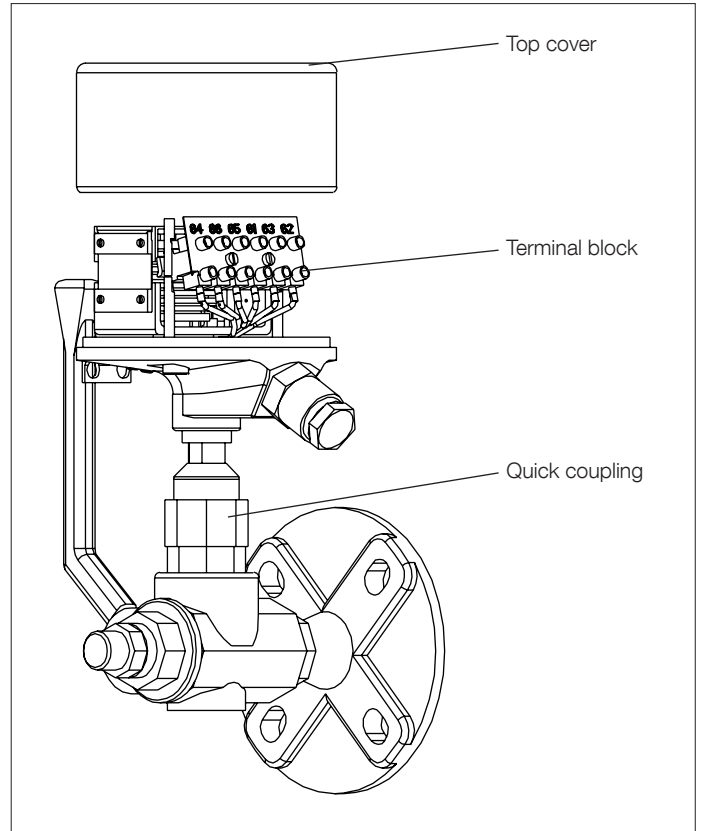

Fig. 10. Installation.
5. Connect the cables to the bottom row on the terminal block. Fig. 10.